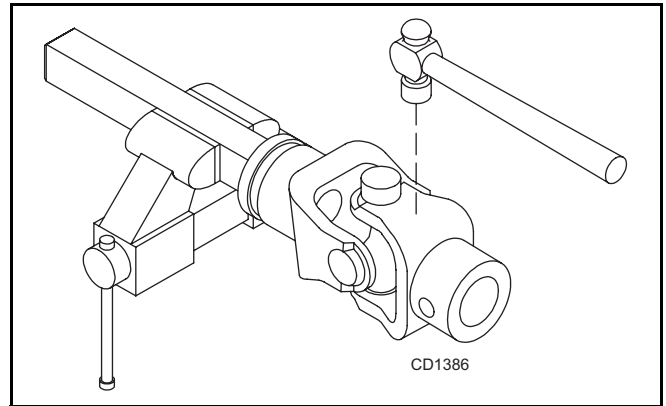

Figure 19
2. With snap rings removed, support drive in vise, hold yoke in hand and tap on yoke to drive cup up out of yoke. See Figure 19.